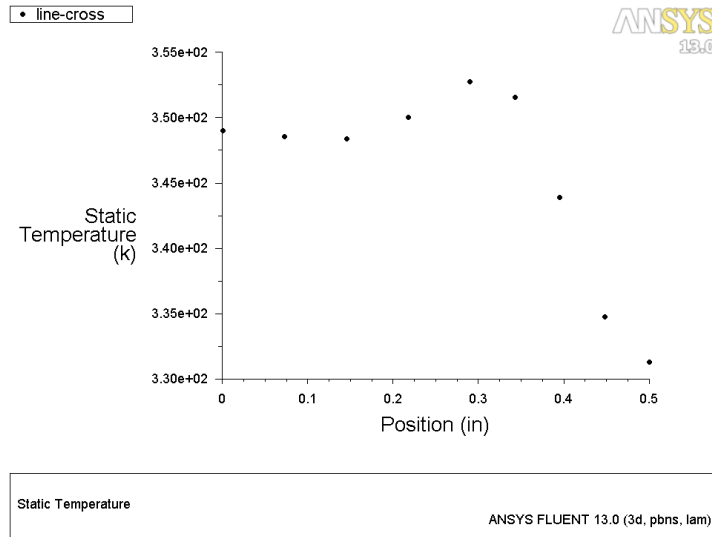

Figure 5: Cross-Stream Static Temperature Profile at $x = 3.5$ in, $y = 0.25$ in
- (e) Click Plot (Figure 5).
Figure 5 shows the predicted cross stream temperature profile behind the block. The effects of the heated block are apparent. The mesh is currently too coarse to resolve the heat transfer details accurately.